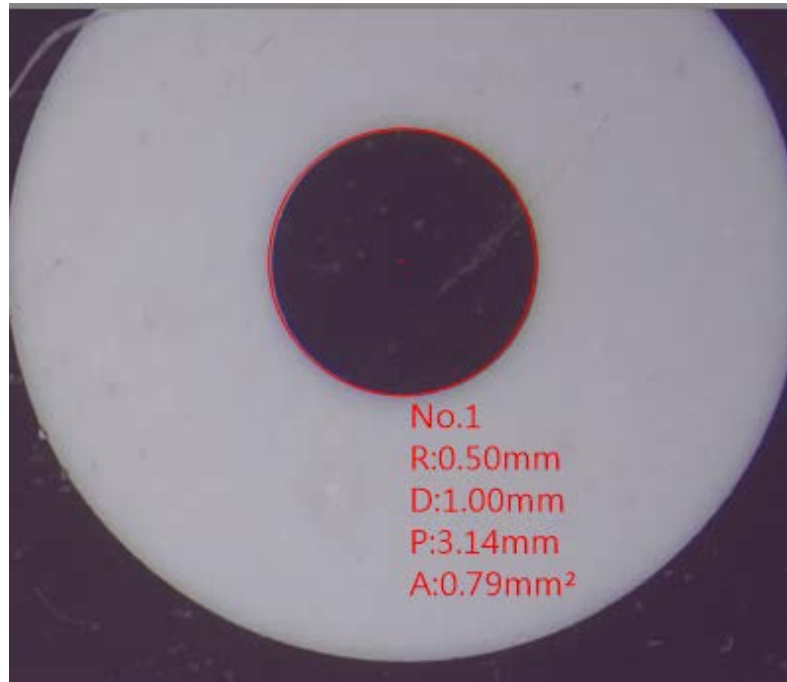

Fig. 5-11 3 Point Circle measurement
(7) 3 Point Circle : When the object is Circle or just a Arc that can apply  tool. Point 1st point on the edge of object, then point 2nd point, again drag toward 3rd point, that automatically draw a circle. In the Fig. 5-11, Radius is R=0.50 mm, Diameter is D=1.00 mm, Perimeter is P=3.14 mm and Area is A=0.79 mm².